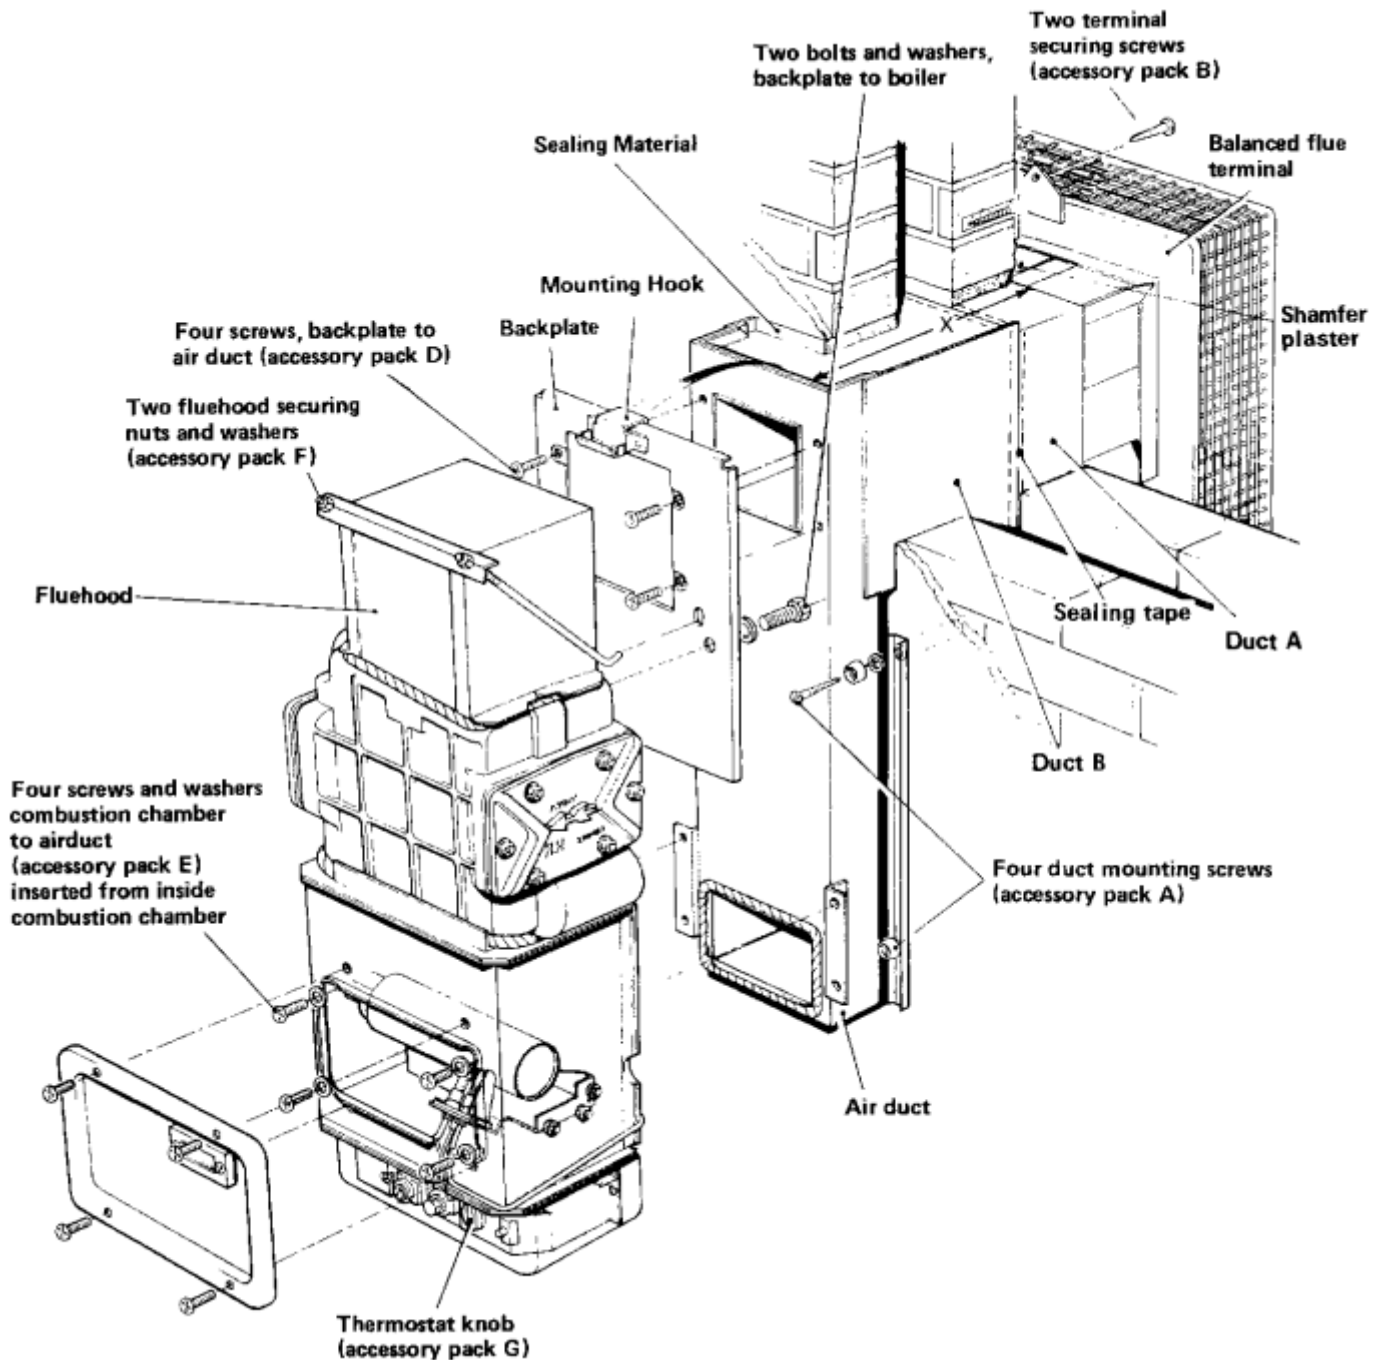

FIG. 4 MOUNTING FEATURES
See Figure 4
- c. Measure the thickness of the wall, slide the loose air duct 'A' into the main air duct 'B' and adjust the length to suit the wall thickness plus 94 mm. Seal the ducting joint with self adhesive tape (supplied) see Figure 4. N.B. The overall duct measurement X is taken from the rear face of the duct 'B' to the front face of duct 'A'.
- b. Shamfer the plaster sealant as shown in Figure 4 to allow engagement of the balance flue terminal assembly, which should then be pushed carefully up against the brickwork ensuring that the flanges on the wall plate slide over the duct retained in the wall. Secure the terminal to the wall with two screws and wall plugs (Accessory Pack B).
- c. Remove the two bolts from the rear of the heat exchanger. Fit the backplate to the boiler in its correct position, see Figure 4 and secure it using the two bolts.
c. Fit the fluehood to the boiler, using tie-rods which located either into holes in the back plate RS40 or holes in the return edge of the backplate RS50S and angle strap, see Figure 4, securing it with the two nuts and washers (Accessory Pack F); ensure an air tight seal is obtained between the fluehood, the top of the heat exchanger and the backplate.